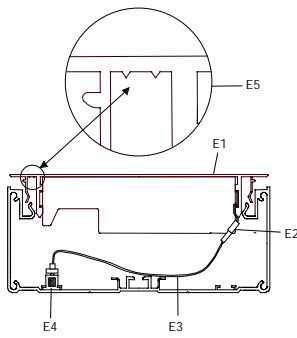

Figure 5: Inserting the modules
- All covers and modules have to be mounted with the attachment mark from the left side (see figure 5).
The terminal of the stranded non-fused earthed conductor (E3) has to be plugged onto the flat plug-in connector terminal (E2) before mounting the modules (E1) in the channel unit. The connection between earth and the earthing clamp (E4) mounted in the channel unit bottom part is established via the stranded non-fused earthed conductor. The earthing clamp should be mounted on the opposite side due to the place restrictions. If all wires have been connected the modules can be inserted in the pre-mounted channel unit bottom part and clicked into place by an equal pressure onto the clamp outlines. When inserting the modules take into account that the attachment mark (double line, E5) is situated on the channel unit's left side (figure 5).